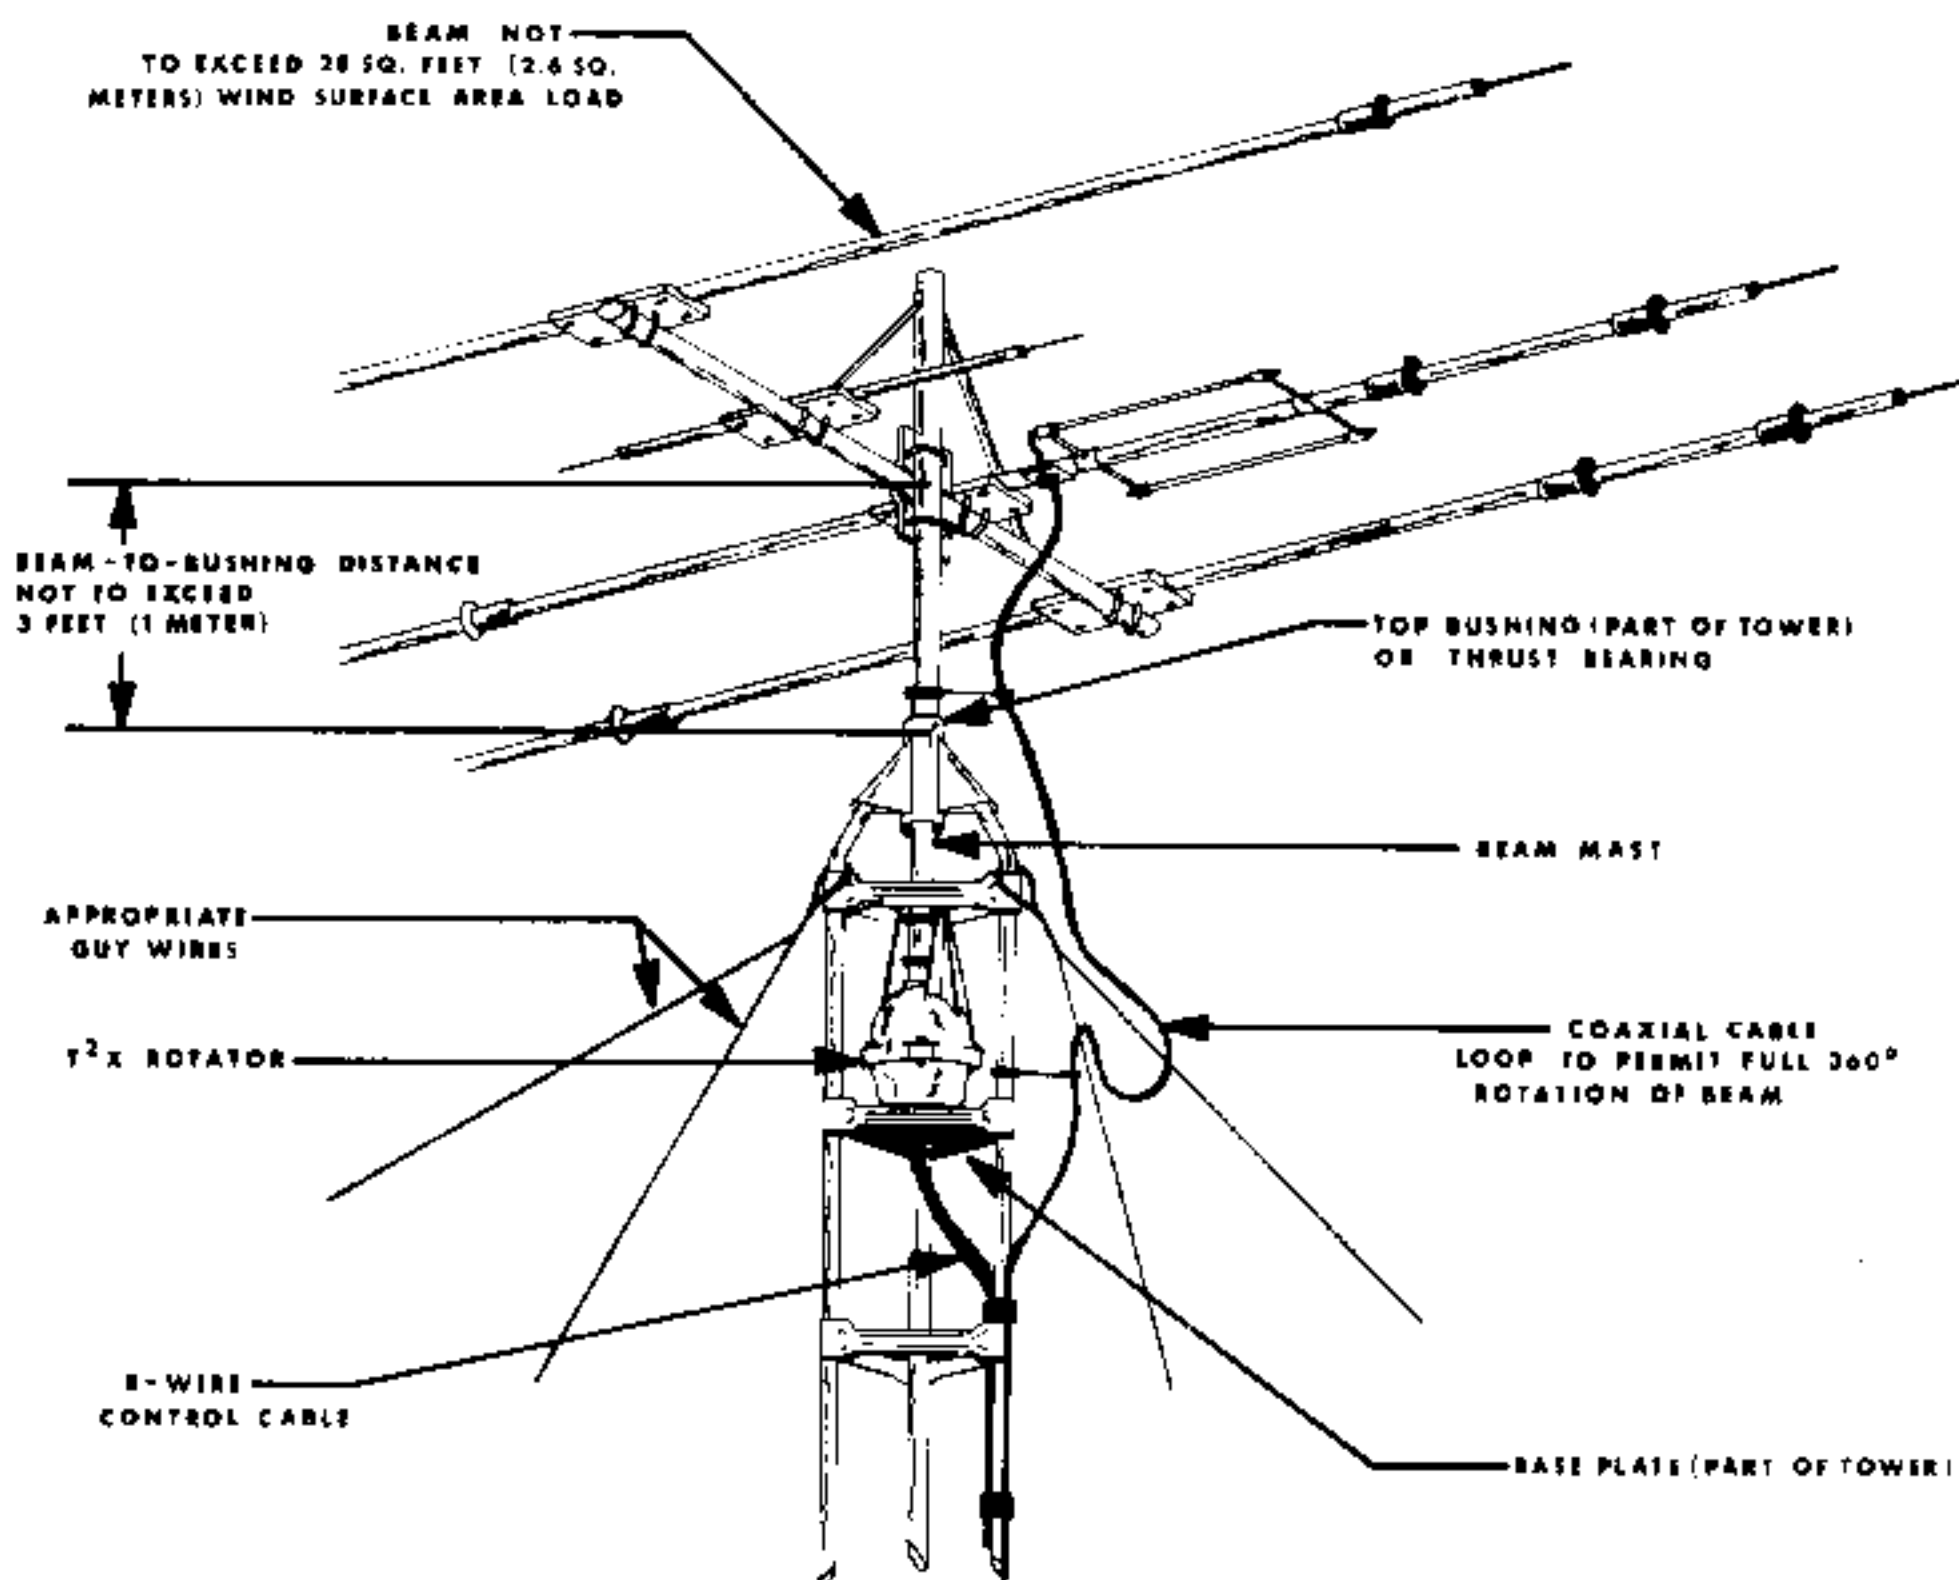
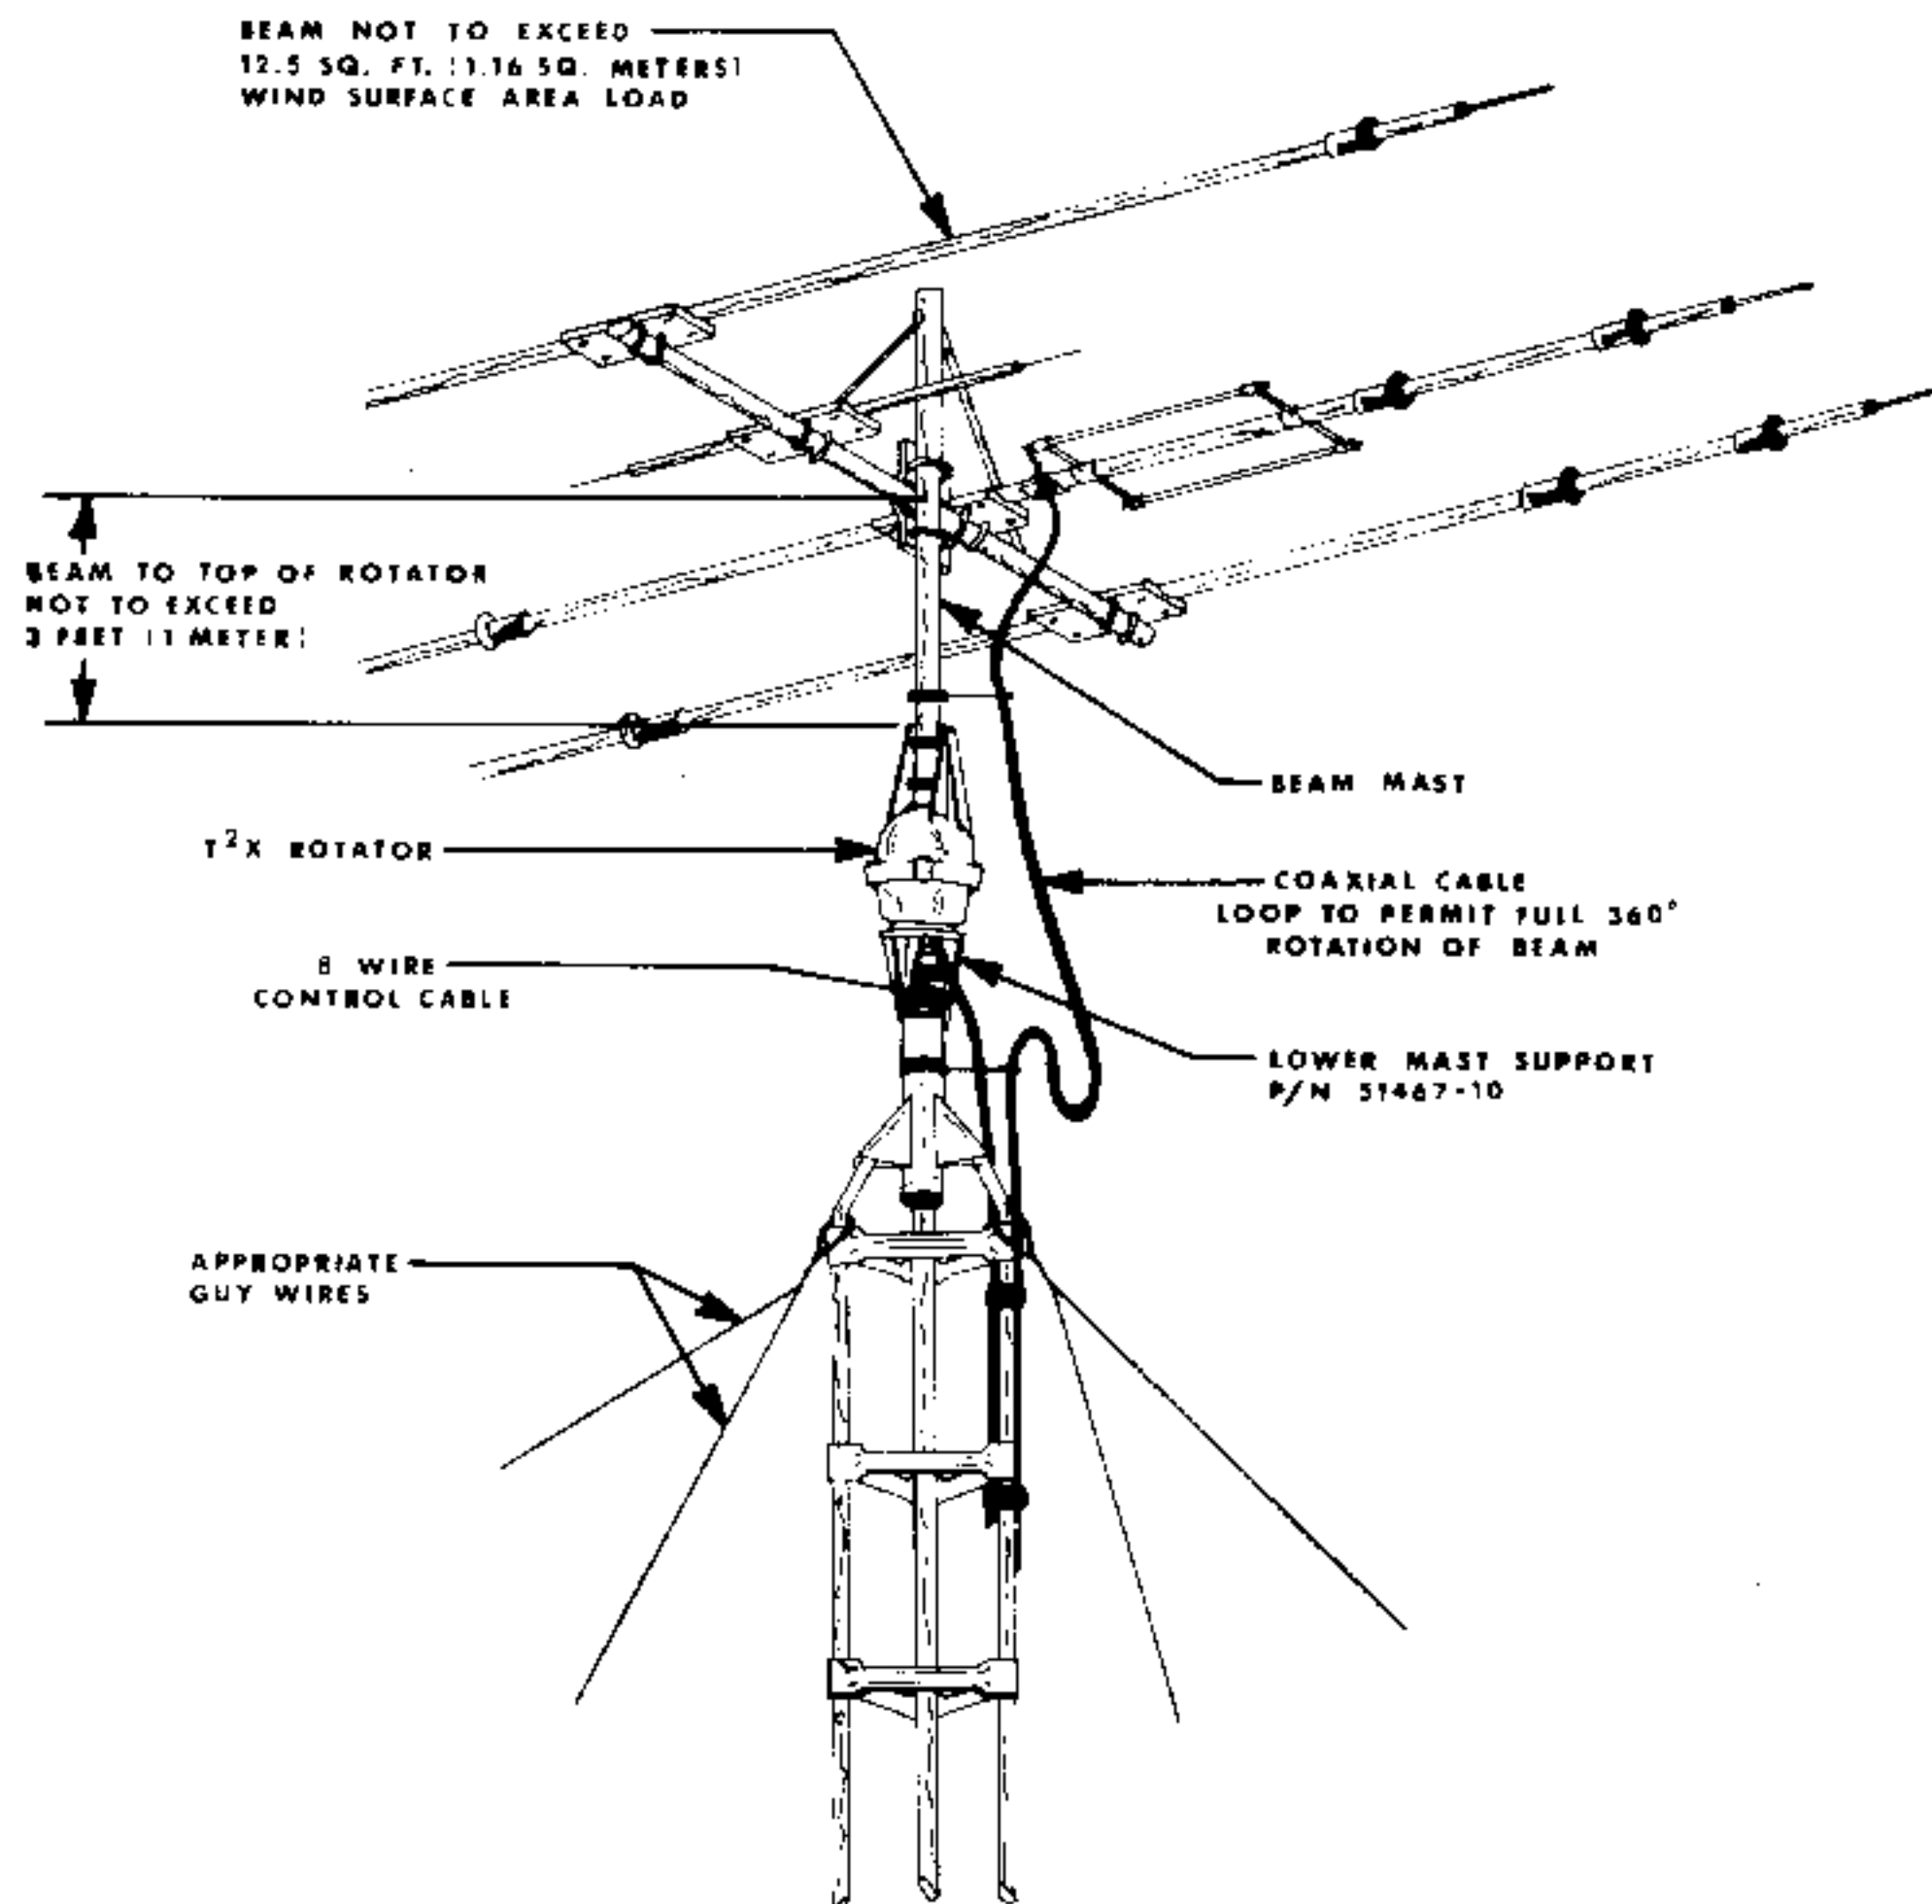

FIG. 1 - INSIDE TOWER MOUNTING
FIG 2 - TOP OF TOWER MOUNTING
- D. When not mounted within a tower with a thrust bearing as shown in Figure 1, the rotator must be **DERATED** - See specifications.
The Tailtwister rotor consist of an extra heavy duty rotator and control unit . The rotator is designed to be mounted on a plate inside a tower. A mast to support and turn large communications beams (see figure 1) is then attached to the top of the rotator. The rotator must be wired to the control unit with eight-wire cable. The control unit may be placed inside the house or other protected location. Included with the rotor are:
- G. Optional lower heavy duty Mast Support Kit must be procured if the owner elects to use an "outside" tower mount (see figures 2 and 3). The part number for the Lower Mast Support Kit is 51467-10. "Inside" tower (figure 1) is recommended.
There are three general types of installations (see figures 1 through 3).
- 2. An "outside" tower mount as shown (See Figure 2) is optional. The rotator is not as well protected but the installation is simpler. The owner must procure the Heavy Duty Lower Mast Support Kit, P/N 51467-10, to install as in figure 2 and derate to 12.5 square feet (1.16M²)
There are variations of the above falling generally into one of the above categories. For example, the rotator may be mounted lower in the tower than shown in Figure 1. In that case, more than one bushing or thrust bearing for the beam mast may be required and longer coast down time allowed in operation. These factors are interrelated and the components must be matched together.
A. **INSIDE TOWER** The rotator is mounted inside a tower (see figure 1) to the flat tower plate by means of six bolts furnished in the hardware kit. Use the following procedure:
9. Return the rotator to the full CW "S" position. Mount the beam pointing South. The coaxial cable should be looped as per Figure 1 in such a manner that it will not foul or tangle when the beam turns around in a circle to the full 360° clockwise position.
Referring to figures 2, 3 and 7 an outside tower or pole mount is made in the same manner except that the rotator is fastened by four bolts only (not six), to the lower mast support, P/N 51467-10. Since the eccentricity of the rotator turning in reference to the tower is no longer important, the shimming procedure is not necessary. The four screws must be torqued to the same specification and the 8-wire cable securely fastened. The lower mast support should be pinned with the bolt provided by drilling in the same manner as described for the upper bell casting. **CAUTION:** The rotator is designed for vertical operation with the bell shaped housing in the up position. Water and other contamination will get into the motor unit if it is mounted horizontally or up-side down.
The stock Tailtwister T²X is intended to mount on the base plate inside of the tower. However, in some instances outside tower or mast mounting is desired as per figures 2 and 3. This kit, part number 51467-10, contains a heavy duty lower mast support and the necessary hardware to facilitate mounting the T²X on top of a tower stub or mast. Caution, when the rotator is installed using the lower mast support kit, the antenna size must be restricted to 12.5 square feet (1.16m²) of wind surface area.